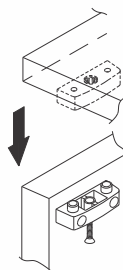

Fig 3
3. Join both boards at right angles as per Fig. 3.